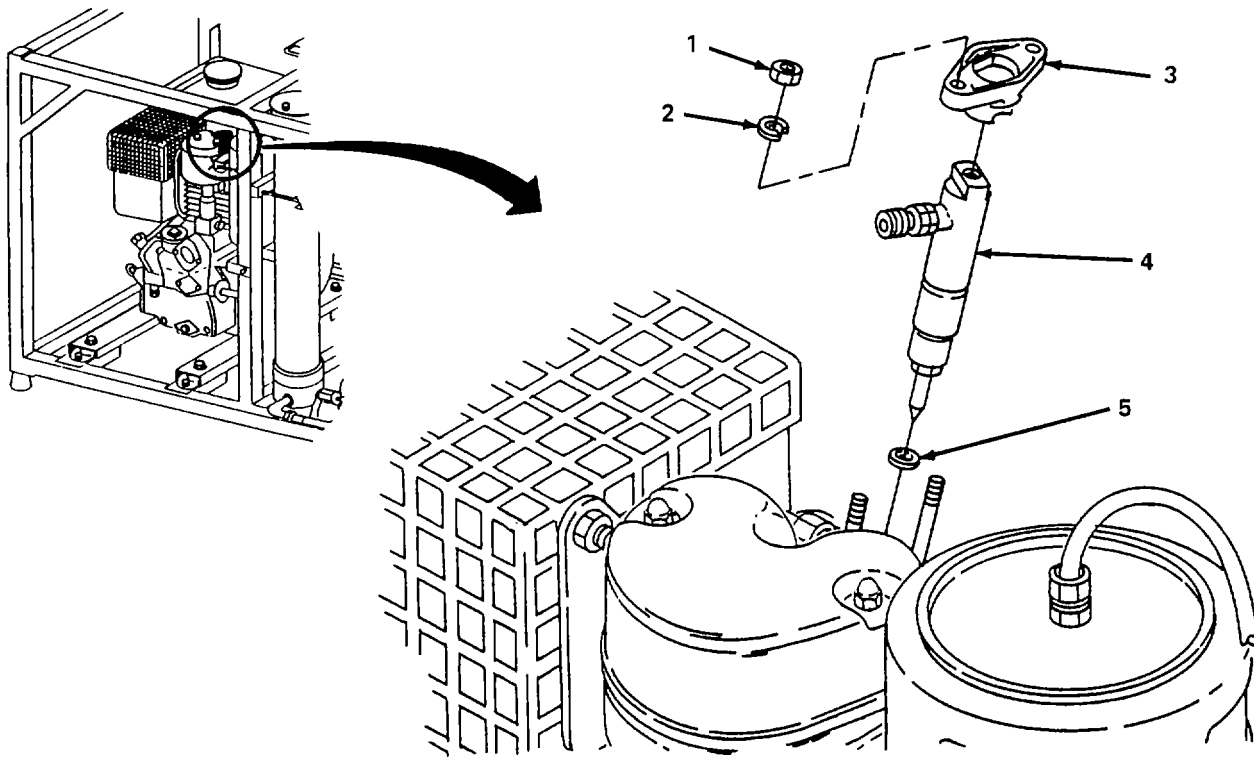

Figure 5-38. Fuel Injector, Replace.
- b. *Replace.* (figure 5-38)
- (1) Remove two nuts (1) and lockwashers (2) and remove injector clamp (3).
- (2) Remove fuel injector (4) and gasket (5). Discard gasket (5).
- (3) Install new gasket (5) and fuel injector (4).
- (4) Install injector clamp (3) and secure with two nuts (1) and lockwashers. Torque nuts to 42-50 lb-in. (5-6 Nm).